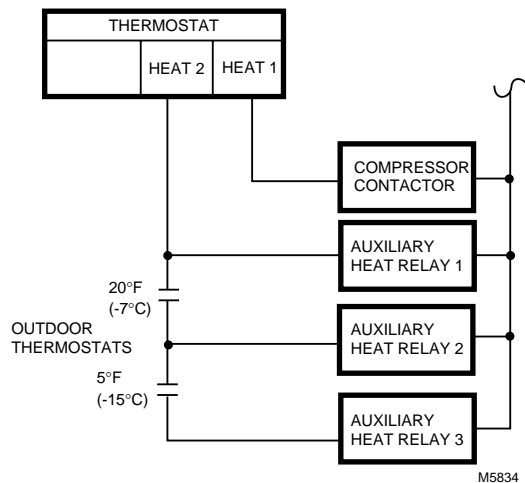

Fig. 40. Outdoor thermostats for auxiliary heat.
*Outdoor thermostats* are used to switch additional increments of electric heat into the thermostat circuit as the outdoor temperature gets lower. All increments of auxiliary heat are still controlled by stage-two of the thermostat but only if the outdoor temperature requires the additional capacity. See Fig. 40.